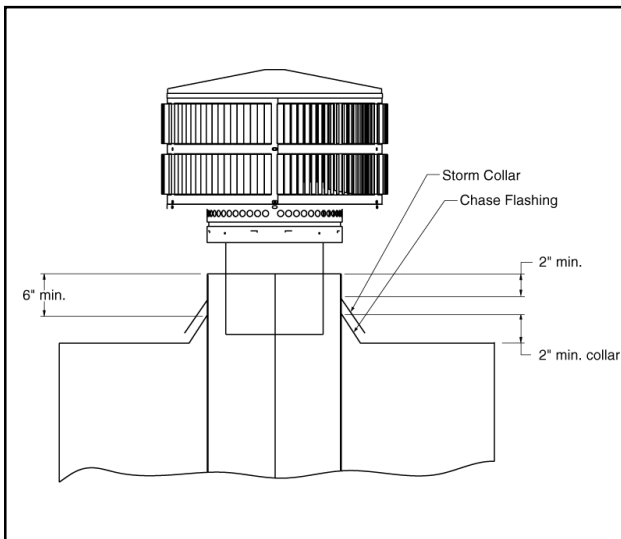

Figure 14 - Installing a TR11 Round Termination Cap
- a. Install the chimney sections up through the chase enclosure. When using a TR11 round termination cap, the uppermost top section of pipe must extend 6" above the top of the chase collar to allow installation of the storm collar and termination cap. See Figure 14.